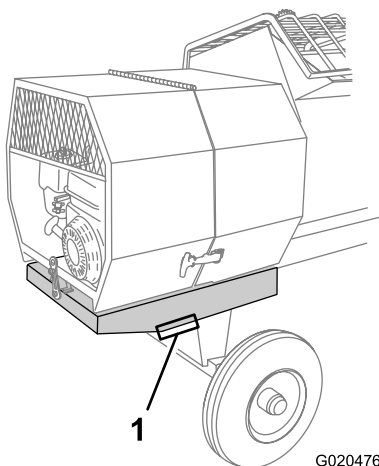

Figure 22
3. Use a jack stand at each support point on the rear frame extension (Figure 22).